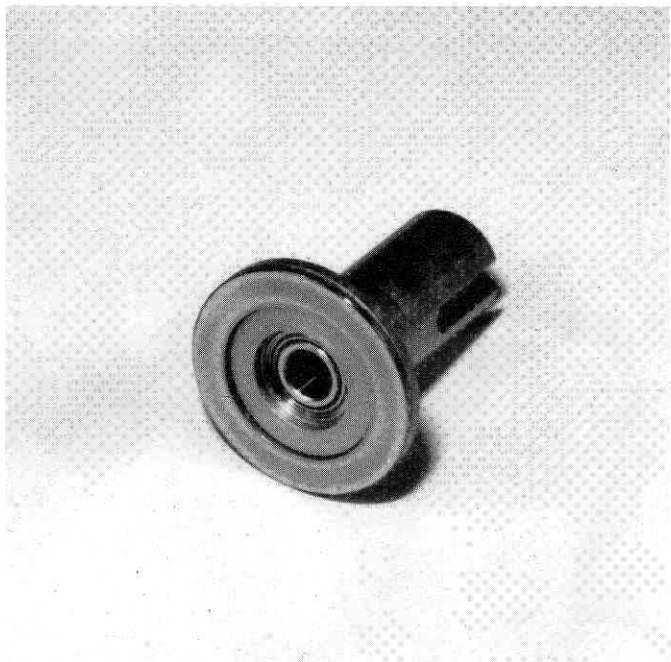

Fig. 40
□ **Fig. 40** Your hub should look like this. DO NOT try to pin the drive ring to the hub. The hub is designed to lock the drive ring without pinning. Leave AS IS.